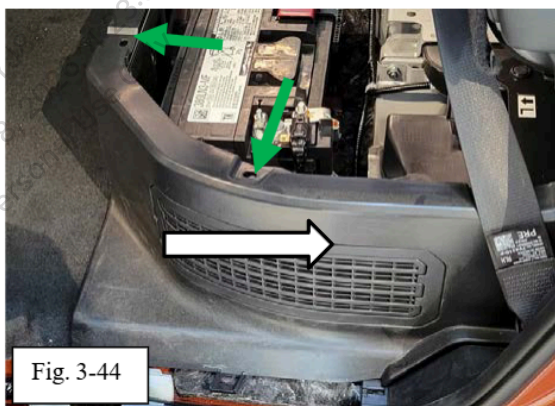

Fig. 3-44
- (aj) Re-install the rear under side covers using 2 clips per side (Fig 3-44).